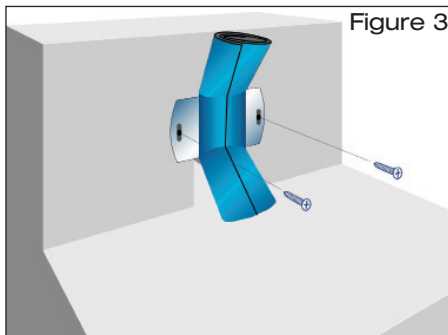

Figure 3
- 1.3 Fasten the sliding flange (with the connecting sleeve rolled up) using a screwdriver for slotted screws (Fig. 3). **Note:** the dimensions given under y in Table 2 and Table 3 must be maintained.